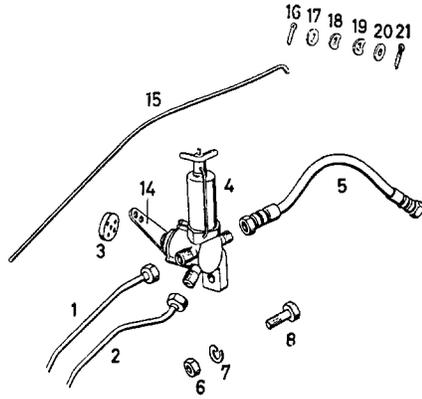

Fig. 47-6/2
When the filter is removed and installed both the reserve fuel line (2) and the actuating rod (15) on the pass filter must be removed and installed (Fig. 47-6/2).